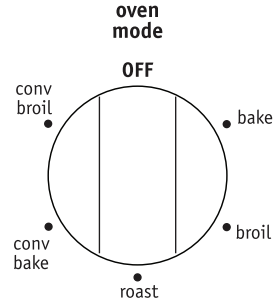

Figure 20: Oven mode knob
3. Turn the **oven mode** knob to the **conv bake** position (Figure 20).